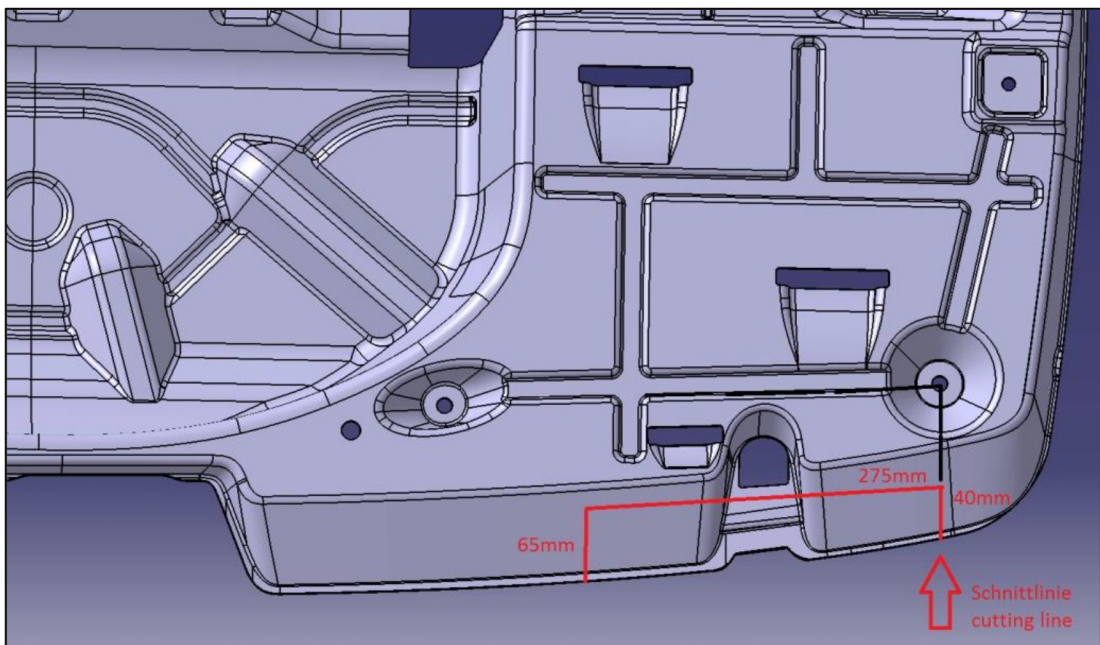

Fig 7: Cut to left underbody fairing (view rotated by 180°)
23. Cut the standard underbody fairing as shown in figures 7 + 8 (page 21+22). Lightly deburr the cut edges and remove residue and swarf.